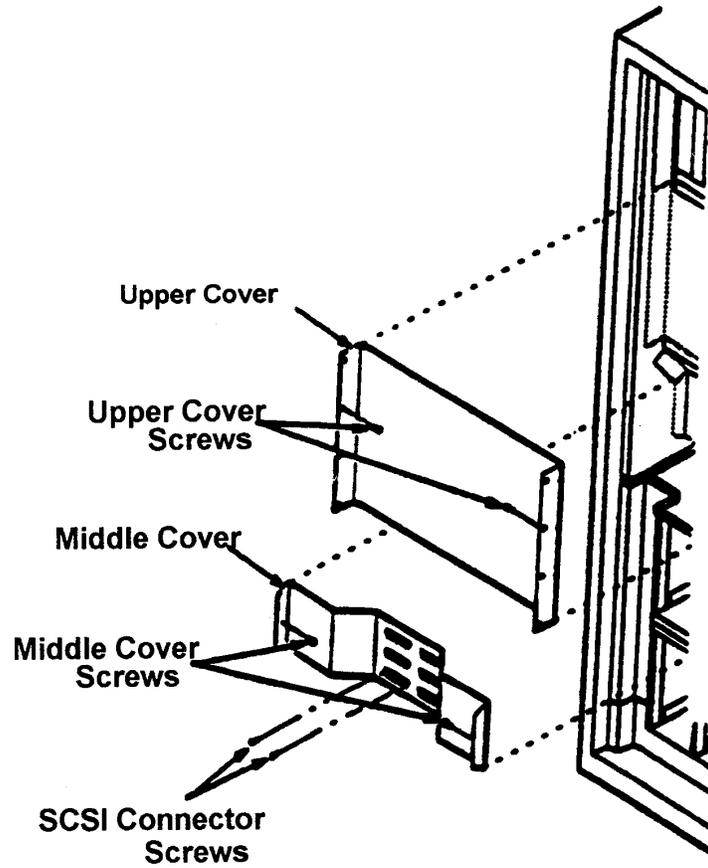

Figure 1. Middle and Upper Cover Removal/Restoral
17. Remove the upper cover screws (8 hex self-tapping) and the upper cover. See (Figure 1).
26. Install the upper cover by installing and tightening the upper cover screws. (8 hex self-tapping). See(Figure 1).